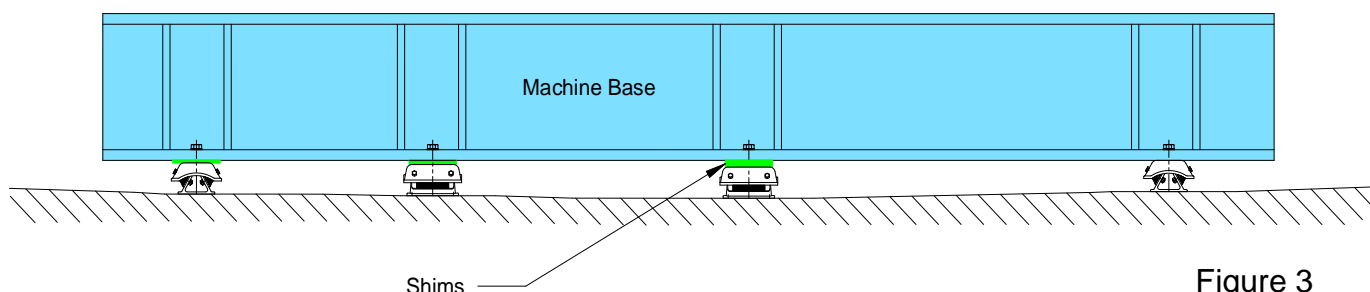

Figure 3
10. Gradually transfer the load to the mounts removing all temporary rigid blocks or jacks. See Figure 3 below.